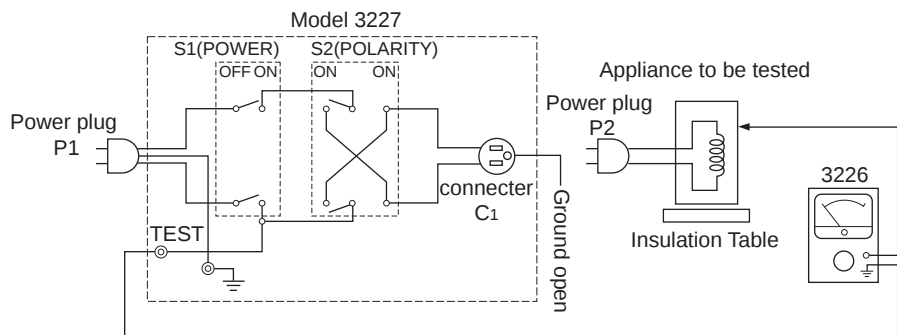

Fig. 2 Connection Diagram
- 4. Open switch S1, and connect all the simultaneously accessible exposed conductive surfaces of the to-be-tested appliance together to the “INPUT” terminal (H) of Model 3226.
- 12. Start operating the appliance. When the appliance has reached its steady operating status, measure its leakage current. When not using the Model 3227 Test Box, compose a circuit similar to that shown in Figure 2 and measure.